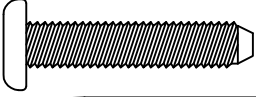

FIG.7
A. First place the Top into its appropriate position on the sides and front panel assembly as shown in figure 7.
B. Insert the 7 (seven) Allen Bolts (K) and washers (P) first through the holes in the blocks on the inside edge of the Top (A) then into the threaded inserts in the panels as shown in figure 7. Tighten all bolts with the Allen key (Q).